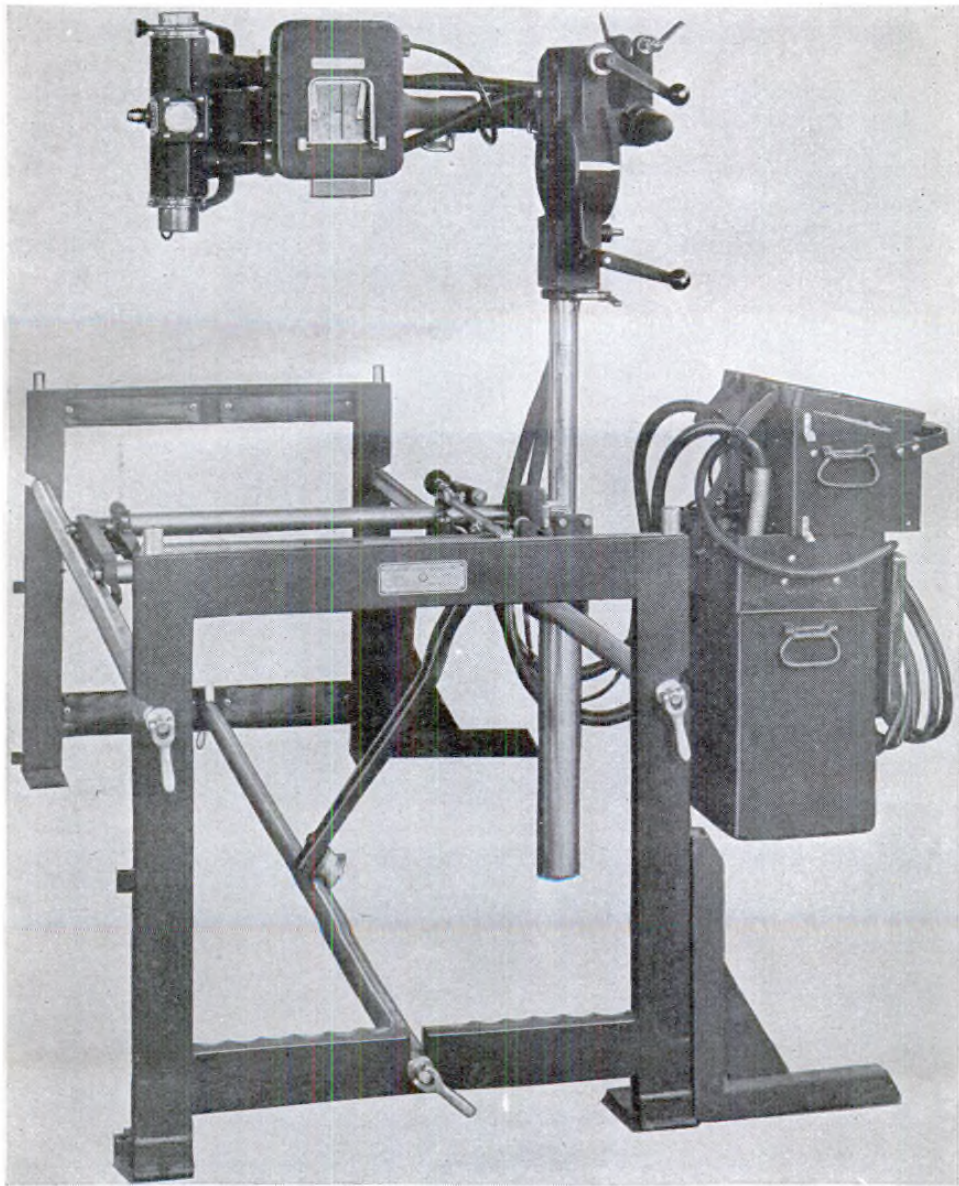

Figure 41.—X-ray field unit table unit, vertical radiographic position.
(21) With these accessories removed, release the catches holding the two covers of the lower compartments and remove the hand timer and footswitch.
(22) Connect the timer and footswitch to the rear control panel and hang the timer on the hook provided for it. Support their cables on the cable hooks provided on either side of the control unit.
(23) The line cable should be coiled up in a roll about 12 to 15 inches in diameter and placed over the hook provided in the cover of the transformer chest, when not connected to supply line.
(24) Aluminum filters and lead aperture plates for the tube head are found in the center compartment of the cable drawer.
(25) Complete assembly for the desired position as described in *c.* below.
c. COMPLETION OF ASSEMBLY FOR VARIOUS POSITIONS WHEN X-RAY FIELD UNIT TABLE UNIT IS SUPPLIED. (1) For vertical roentgenography, proceed as follows (fig. 41):